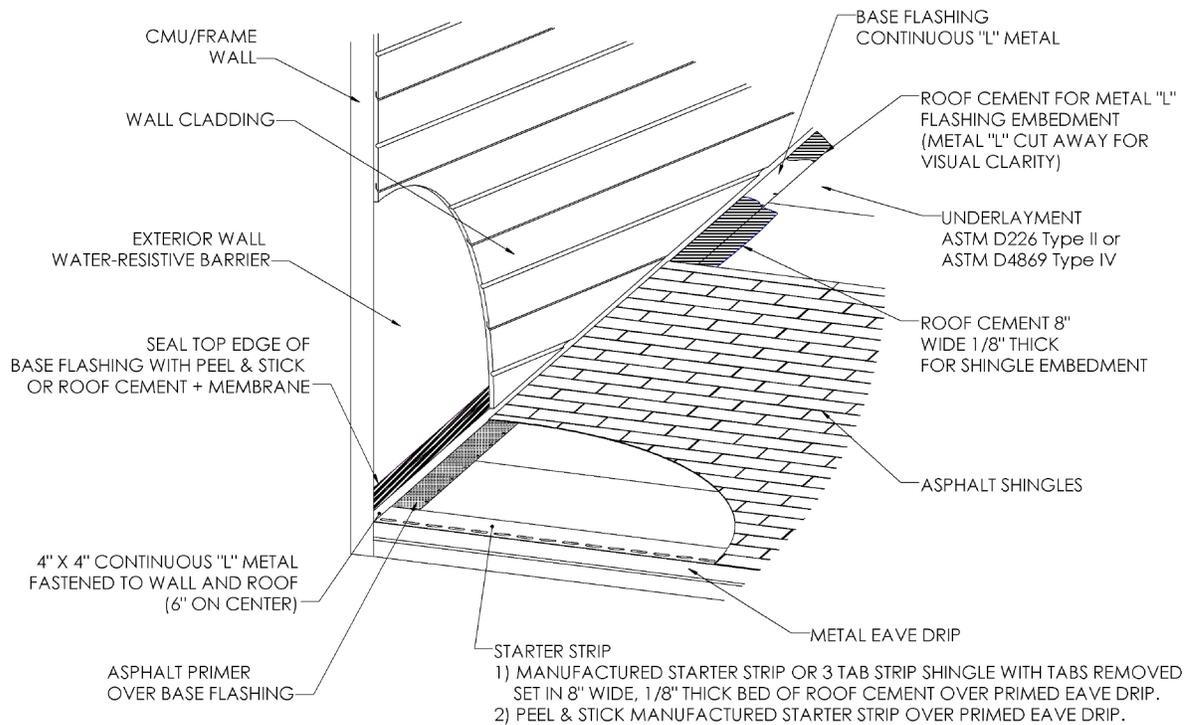

Figure 2
- Seal vertical flange top edge and fasteners with an approved flashing cement and membrane, ASTM D1970 peel-and-stick membrane, or another approved sealant prior to reinstalling any wall cladding. **(See Figure 2.)**
Seal the continuous metal base flashing top edge and fasteners to the vertical surface prior to reinstalling any wall cladding. **(See Figure 2.) Do not drive cladding fasteners through the continuous metal base flashing.**